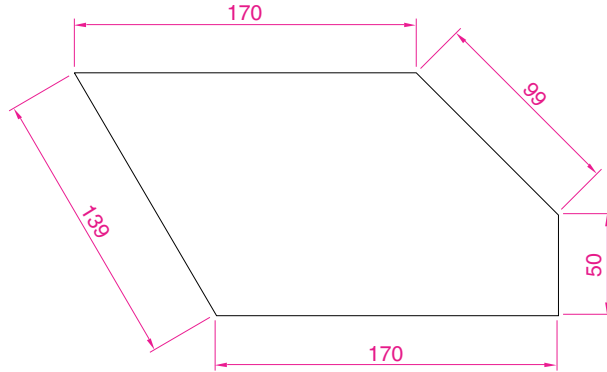

Fig. 6.6 Second example – **Aligned Dimension**
Second example – Aligned Dimension (Fig. 6.6)
1. Construct the outline in Fig. 6.6 using the **Line** tool.